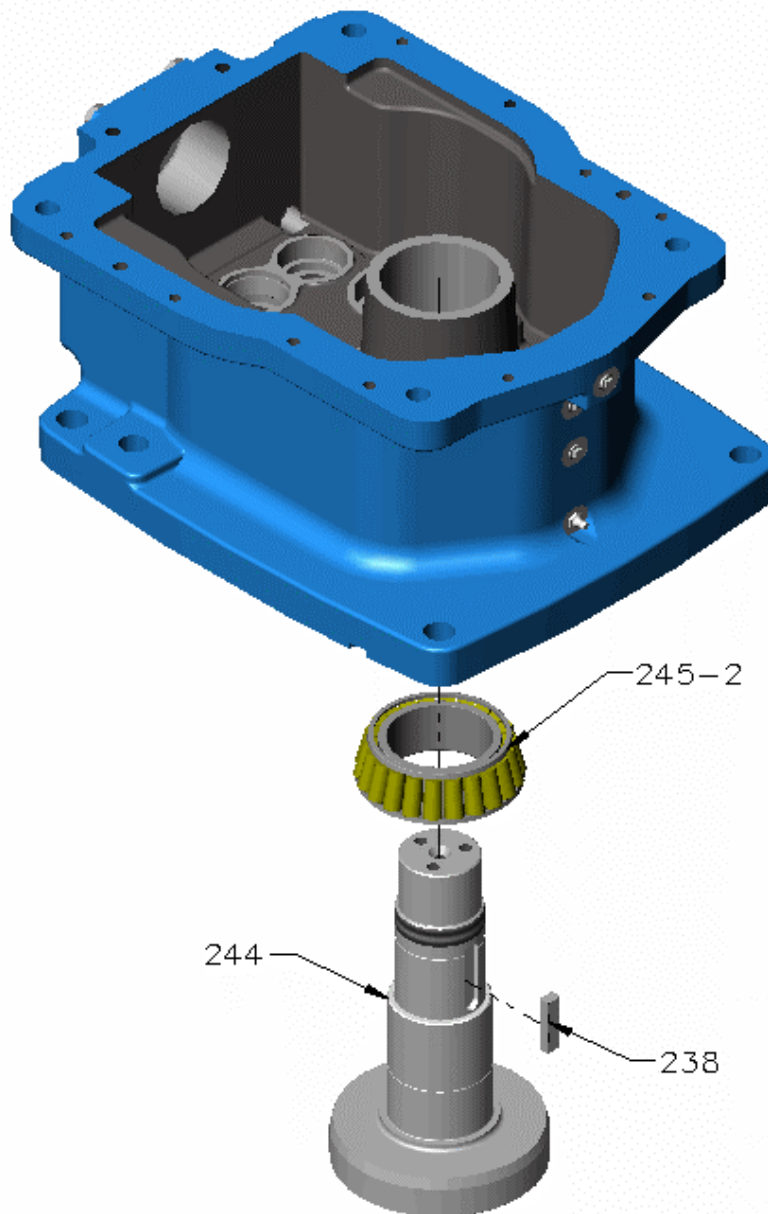

Figure 13 – Output Shaft
- C. Output shaft assembly (refer Figure 13):
- D. Lift the bottom case and align with output shaft assembly [244] (refer Figure 13).
- E. Carefully lower bottom case until bearing cone [245-2] is seated (refer Figure 13).